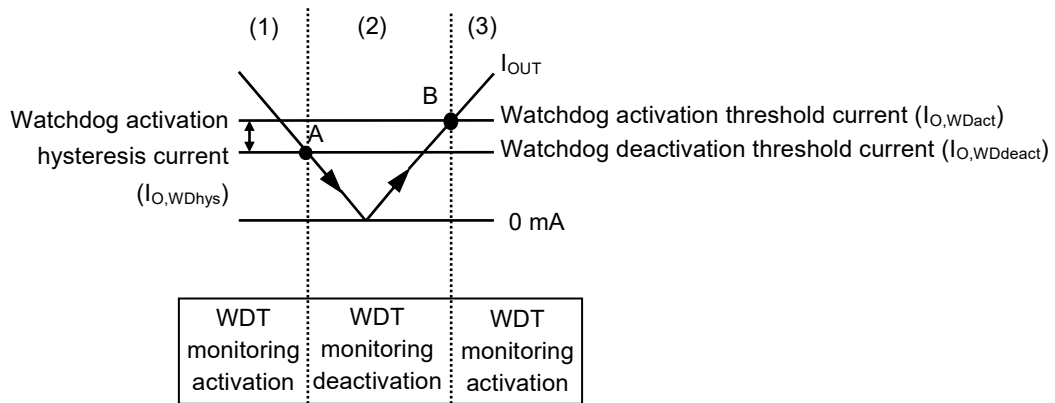

Figure 46 Autonomous Watchdog Operation Function
- (1) When I_{OUT} of the regulator is the watchdog activation threshold current ($I_{O,WDact}$) or more, the WADJ pin voltage (V_{WADJ}) is higher than the reference voltage (V_{ref}), and the output of the comparator (C1) is "H". At this time, the watchdog timer is activated.
- (2) When I_{OUT} decreases to the watchdog deactivation threshold current ($I_{O,WDdeact}$) (point A in **Figure 46**) or less, V_{WADJ} decreases to V_{ref} or less and the output of C1 is "L". At this time, the watchdog timer deactivates the monitoring. Even if I_{OUT} increases, the watchdog timer continues the monitoring deactivation when I_{OUT} is within less than $I_{O,WDact}$.
- (3) If I_{OUT} further increases to $I_{O,WDact}$ (point B in **Figure 46**) or more, V_{WADJ} increases to V_{ref} or higher and the output of C1 is "H". And then, the watchdog timer initiates the monitoring activation.